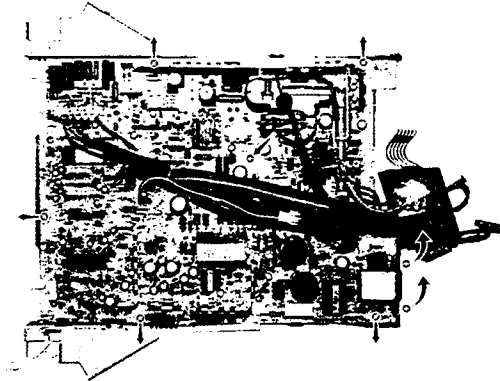

Figure 6-7
- 2) Hold the Main PCB Ass'y close to the CRT as shown in figure 6-7 and reconnect the following connectors: